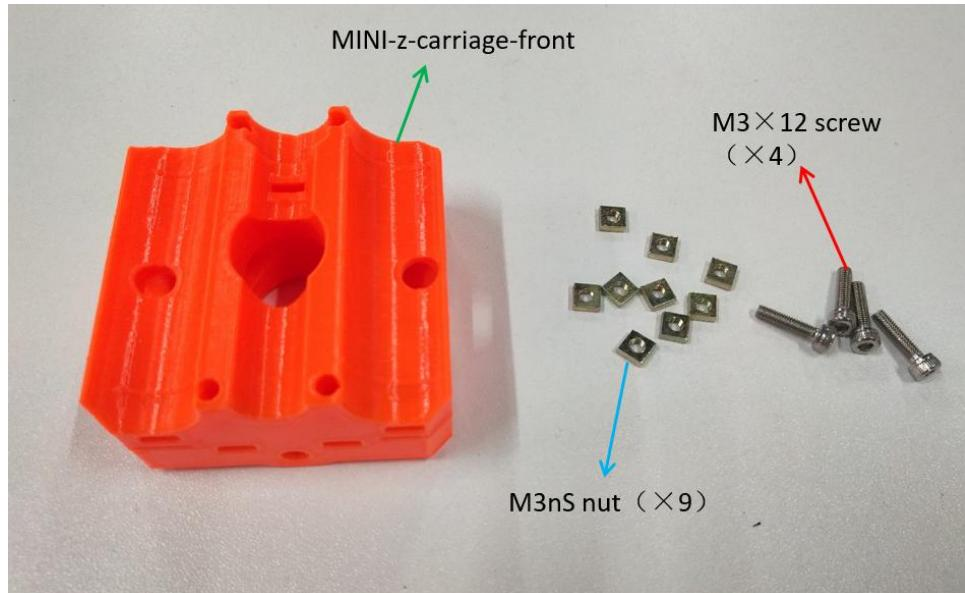

Figure 2.5.1
**Step 2-5-1:** As shown in Figure 2.5.1, prepare the materials and check whether the quantity of materials is correct, and prepare for the next installation.